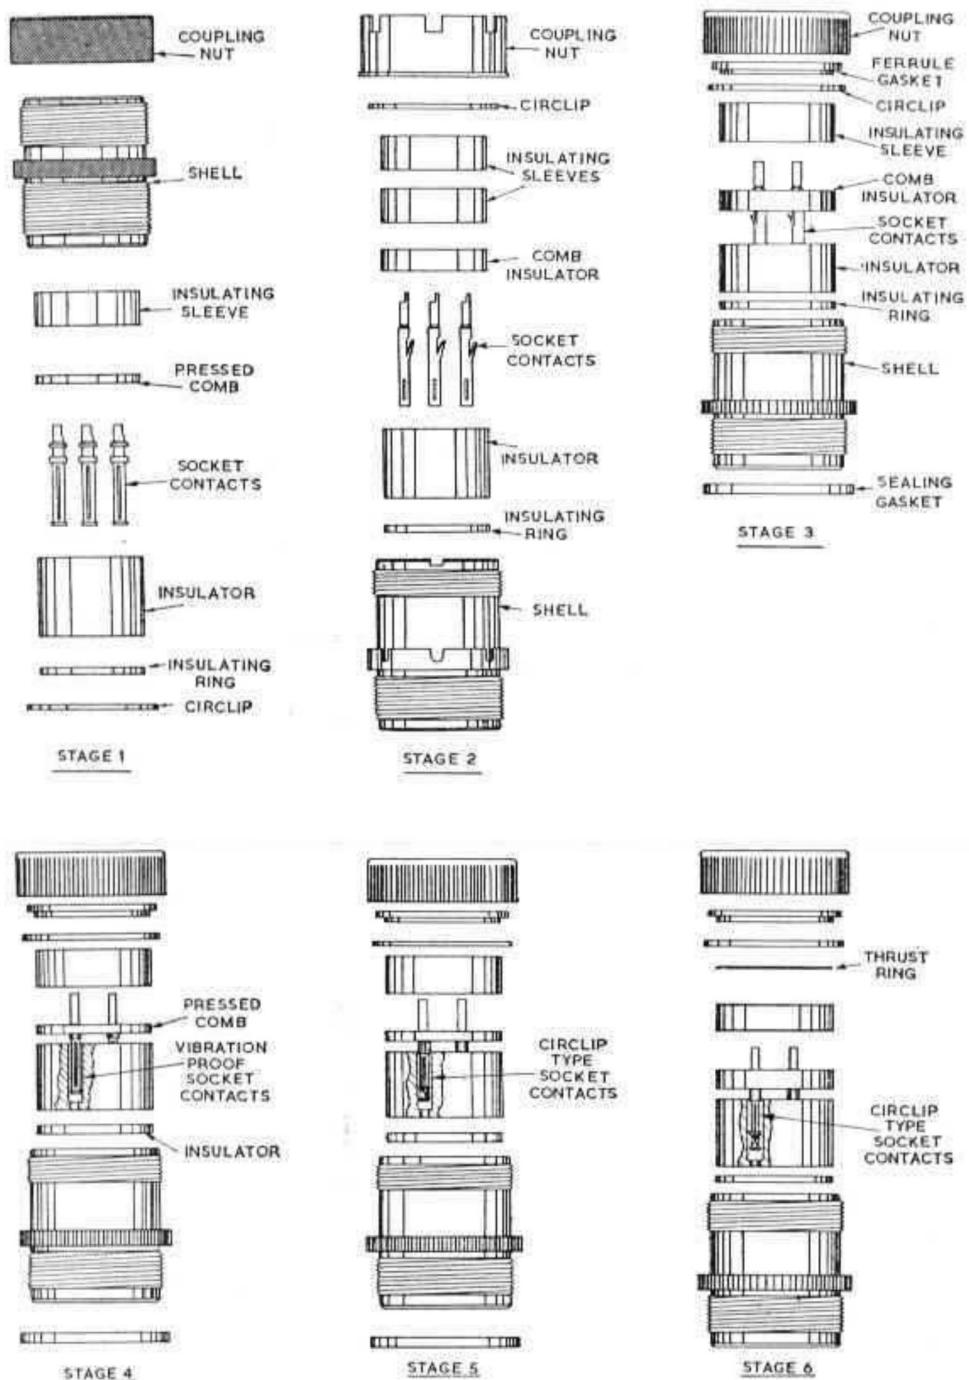

Fig. 8. Free unit, stages of development
13. This style of unit (fig. 8) was the original design, manufactured with rimmed shells in aluminium, brass or steel. It includes a long socket insulator of phenolic material and a pressed comb. Solid end split type socket contacts with short wells (suitable only for soldering) are used and these are protected by an insulating sleeve at the well ends. A diamond knurled coupling nut screws on to the back of the shell to secure the assembly; at the front of the shell the insulator is retained by an insulating ring and a circlip.
14. In this style (fig. 8) the shell and coupling nut were modified. The shell rim is castellated and longer shells are used in sizes D, E and F. The coupling nut is not knurled but castellated. A shortened socket insulator is used and this is backed by a comb insulator in place of the pressed comb. Rolled type socket contacts (suitable for soldering or crimping with the use of thimbles) are used and these are protected by insulating sleeves at the well ends (one sleeve is used in a size A, Z, B or C shell; two sleeves are used in a size D, E or F shell). The insulator is retained by the insulating ring at the front and a circlip at the back. The coupling nut screws on to the back of the shell to secure the assembly.
17. Units at stage 5 (fig. 8) differed only in the type of contact used. These contacts are an improved type using circlips and were designed to provide lighter insertion loading and greater contact length.
18. Units at this stage (fig. 8) were designed to operate between ambient temperatures of -65 degrees C. and +150 degrees C. They are similar in construction to those in stage 5 except that the socket and comb insulators are of alkyd, and the shorter insulating sleeve and the insulating ring are of fibreglass (P.T.F.E. coated); the ferrule gasket is of silicone rubber. A steel thrust ring has been introduced at the rear of the insulating sleeve. The sealing gasket is not included in the assembly but always accompanies the unit since it may be required to mate with an early type of fixed unit.